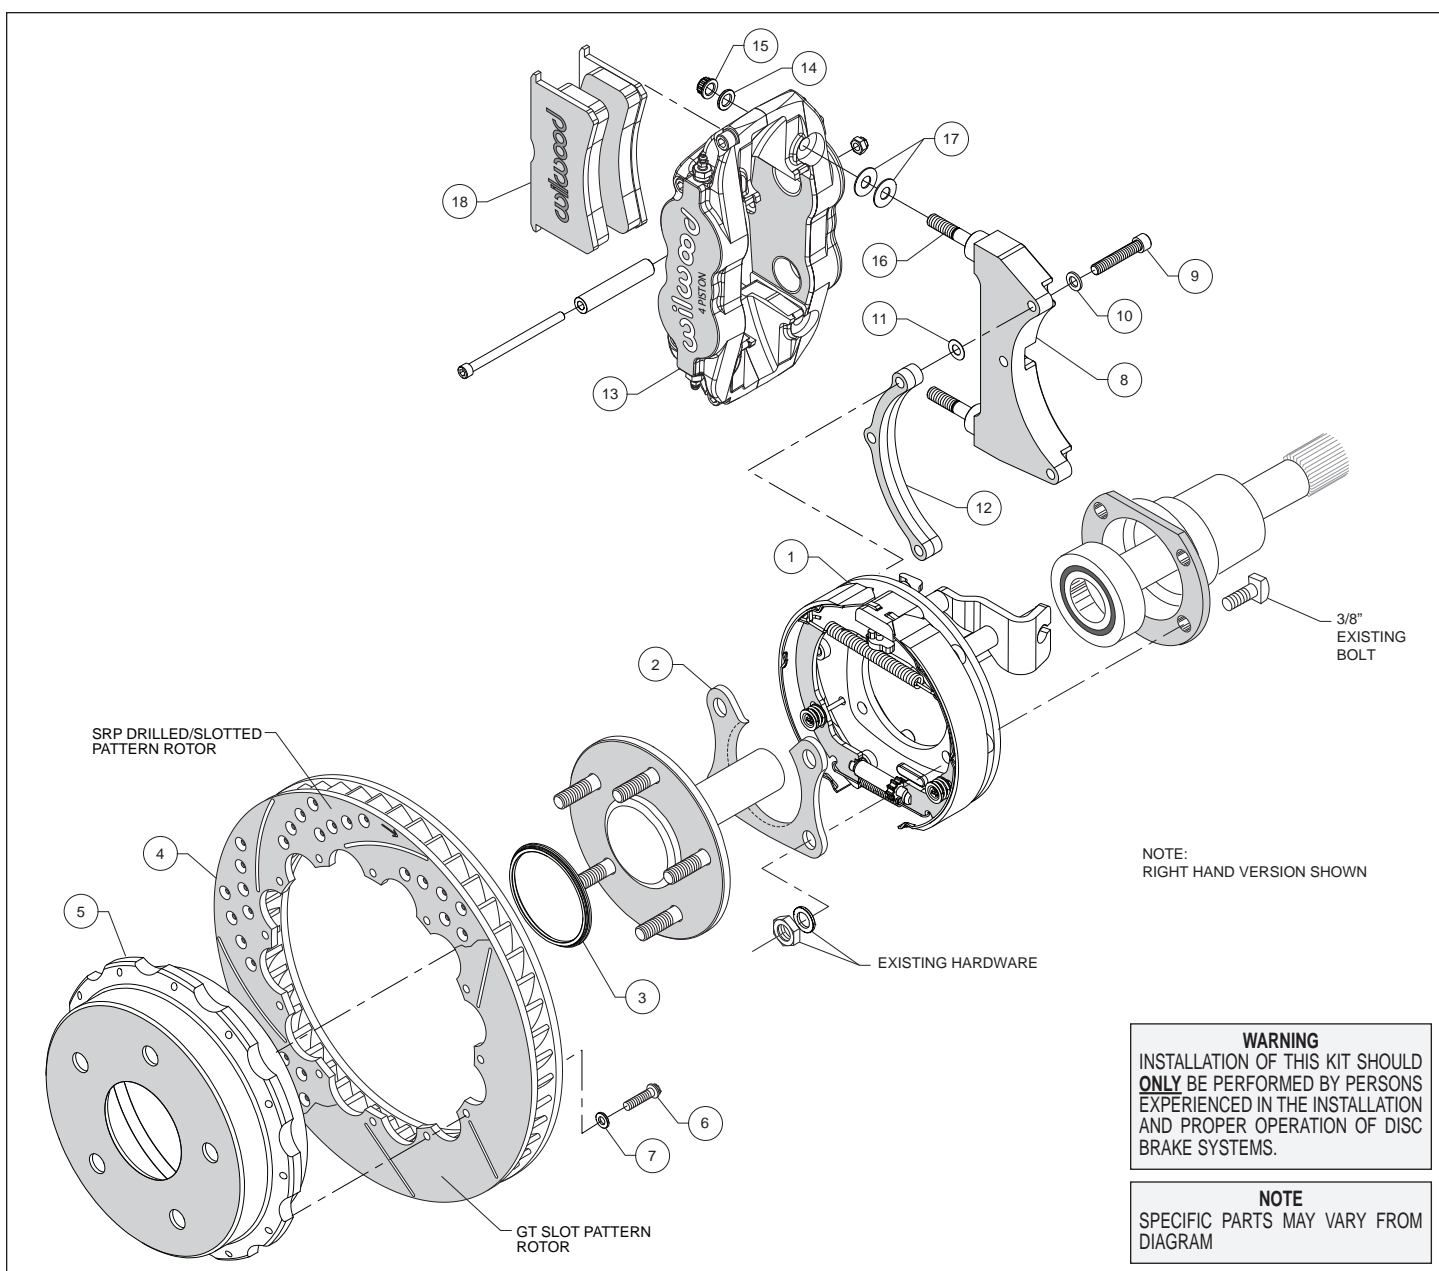
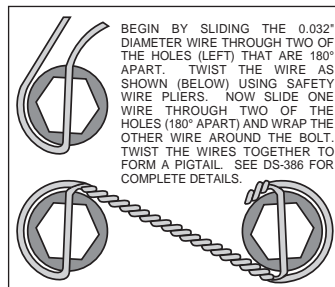

Figure 1. Typical Installation Configuration
Figure 5. Safety Wire Diagram
Assembly Instructions (numbers in parenthesis refer to the parts list, and Figure 1 on the preceding pages): **CAUTION:** All mounting bolts must fully engage clinch nuts. Be sure to check that all bolts are either flush or protruding through flanged side of clinch nut after shimming.
- Orient the bracket assembly (1) as shown in Figure 1 and Photo 1 and slide it onto the axle. Insert the axle and bracket into the axle housing. Ensure that the bracket assembly backing plate fits flush against the axle housing flange.
- Install the bearing retainer (2) with the opening pointing upward and the lip facing inward (toward the bearing), as shown in Figures 1 and 4, and Photo 2. Secure retainer and bracket assembly to the axle housing flange using the Original Equipment Manufacturer (OEM) bolts, washers, and nuts, Figure 1. Apply red *Loctite*® 271 to the OEM bolt threads and torque to OEM specifications.
- NOTE:** Please reference the caution statement at the beginning of the assembly instructions. The caliper mounting bracket (8) should initially be installed with clean, dry threads on the mounting bolts. Orient the bracket as shown in Figure 1 and Photo 3, and install using bolts (9) and flat washers (10). Initially place one .015" shim washer (11) on each bolt between the bracket (8) and spacer (12), Figure 1. Temporarily tighten the mounting bolts. **NOTE:** End of bolt should not exceed inside face of insert. The bracket must tighten squarely against the back side of the bracket kit assembly (1). Inspect for interference from casting irregularities, machining ridges, burrs, etc. Later, after the caliper alignment has been checked, the mount bolts will be secured using red *Loctite*[®].
- Orient the rotor (4) and the hat (5) as shown in Figure 1 and Photo 3. Attach rotor to hat using bolts (6) and washers (7). Using an alternating sequence, apply red *Loctite*[®] 271 to the threads, and torque to 140 **in-lbs**. For an added measure of security, the bolts may be safety wired using standard 0.032 inch diameter stainless steel safety wire as shown in Figure 5. Please refer to Wilwood's data sheet DS-386 (available at www.wilwood.com/Pdf/DataSheets/ds386.pdf) for complete safety wire installation instructions.
- Slide the rotor registration adapter (3) onto the axle register on the axle flange with the smaller O.D. facing toward the rotor/hat (4/5), Photo 5. Align the hole pattern in the hat with the stud pattern on the axle flange and slide into place, Figure 1 and Photo 6. **NOTE:** The rotor/hat must fit flush against the axle flange or excessive rotor run out may result. Install three lug nuts (finger tight) to keep the rotor/hat assembly in place while continuing with the installation. **NOTE:** Some OEM and after market axles come with stud sizes larger than 0.50" diameter. Verify stud size and have a qualified machine shop drill the bolt circle of the hat/rotor to the correct stud size, if necessary.
- Lubricate the caliper mounting studs (16) with lightweight oil. Initially place two .035" thick shims (17) on each stud as shown in Figure 1 and Photo 7. Mount the caliper (13) onto the bracket (8) using lock nuts (15) and washers (14), Figure 1. Temporarily tighten the lock nuts and view the rotor through the top opening of the caliper. The rotor should be centered in the caliper, Photo 8. If not, adjust by adding or subtracting shims (11) between the bracket (8) and the spacer (12). Always use the same amount of shims on each of the three mounting bolts. Once the caliper alignment is correct, remove the bracket mounting bolts (9) one at a time, apply red *Loctite*[®] 271 to the threads, and torque to 180 **in-lb**.